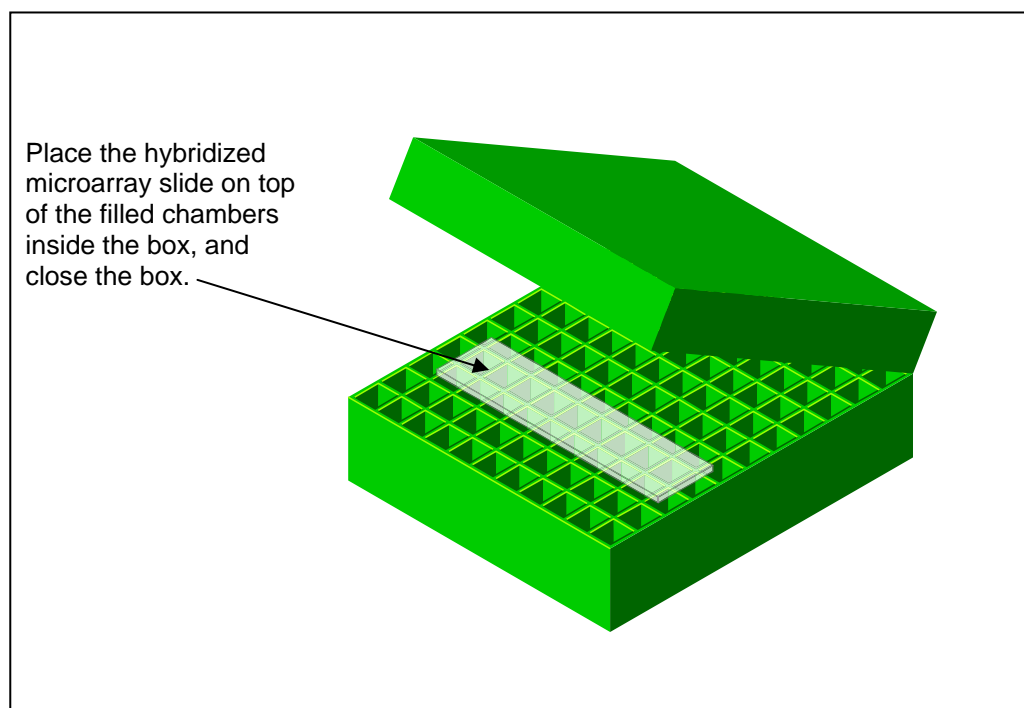

Figure 2: Step 4C→ aRNA or cDNA Hybridization—Glass Slide Inside Chamber Box²
- 11) Place the entire labeled target plus the microarray set-up into a closable, chambered box* that is humidified by 2X SSPE buffer in the 42°C oven for 14 to 16 hours. A sealed chamber ensures that the appropriate humidity level is maintained during incubation. (See Figure 2).
Figure 2, below, provides an illustration of Step 4C, where the hybridization protocol is completed using the glass cover slide method, and specifically, the OneArray DNA Microarray is placed into the chambered box.